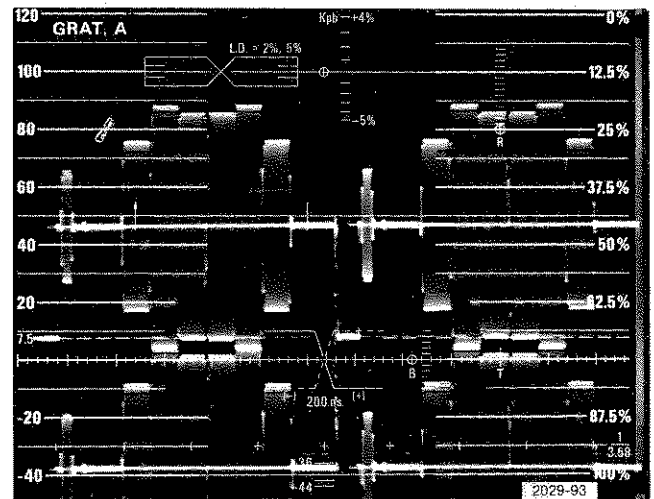

Fig. 3-25. Waveform showing 149A red color bar peaks just overlaying.
Push the 1480 Oper and Cal buttons. Use the test fixture to measure the chrominance amplitudes. Leave P3190 (Y) disconnected. Fig. 3-25 shows the waveform for measuring the red color bar with the 1480 test fixture.